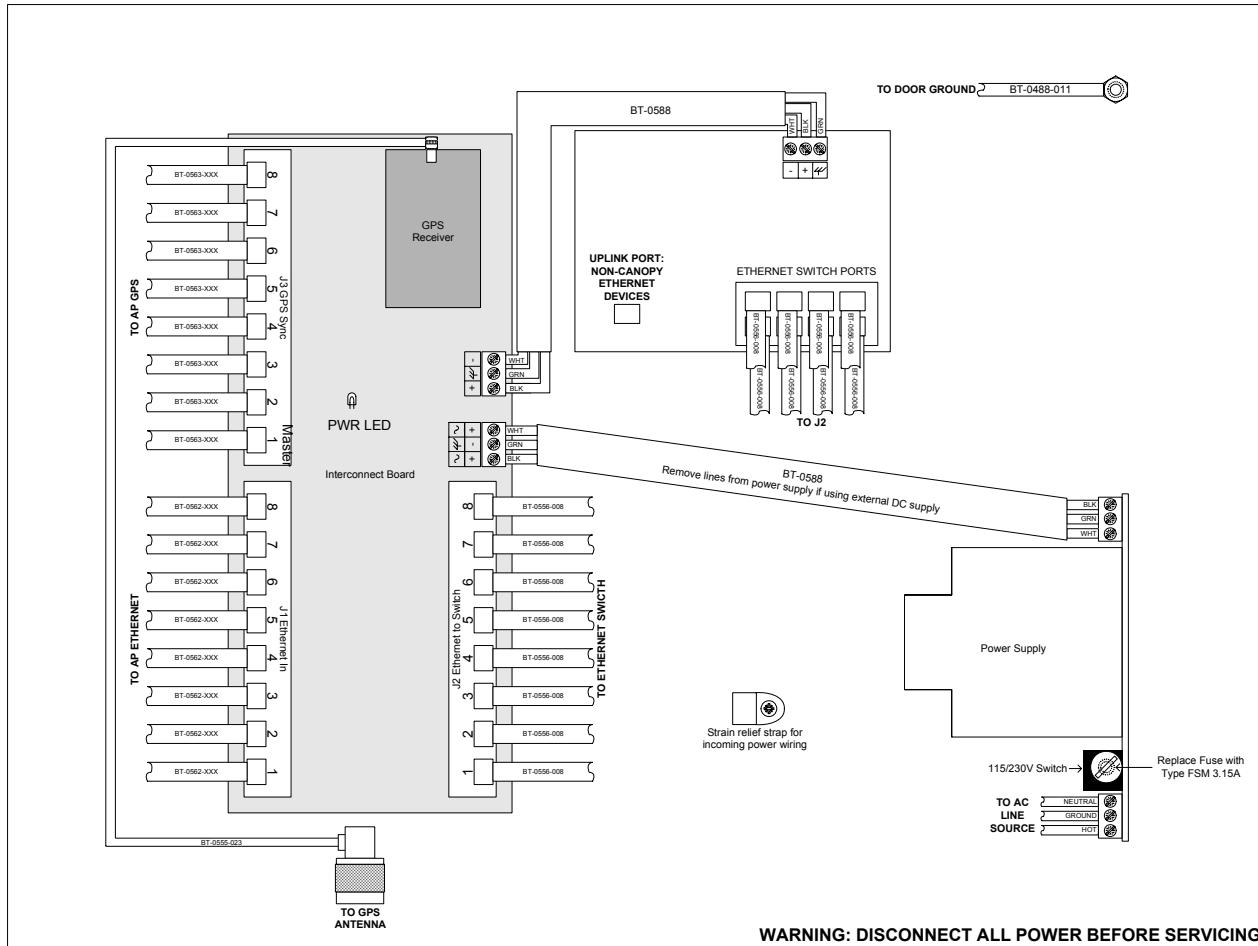

Figure 124: Layout of logical connections in CMM2
The logical connections in the CMM2 are displayed in Figure 124.
15. Connect AC or DC power to the CMM2, consistent with Figure 124 on Page 343.